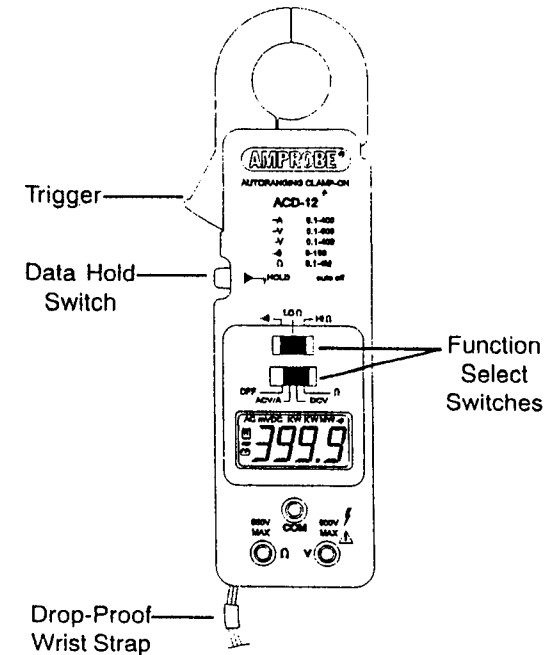

Fig. 1
- 2) Turn instrument on by moving the function select switch (see Fig. 1) to the ACV/A position.